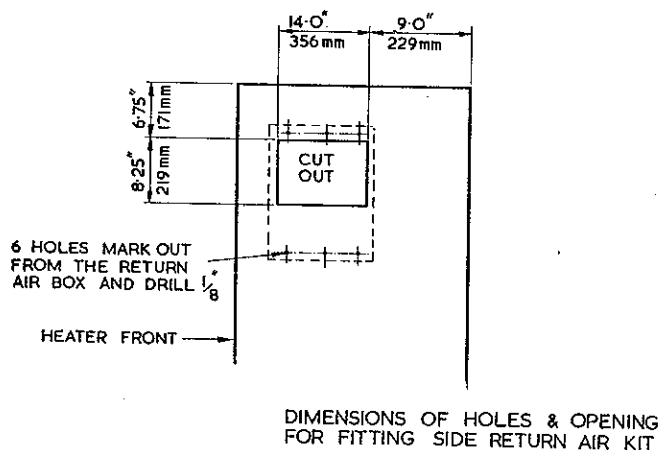

Fig. B1
- Mark outline of opening for return air on the required side of the heater to the dimensions shown in Fig. B1, noting that the opening is towards the front of the heater.